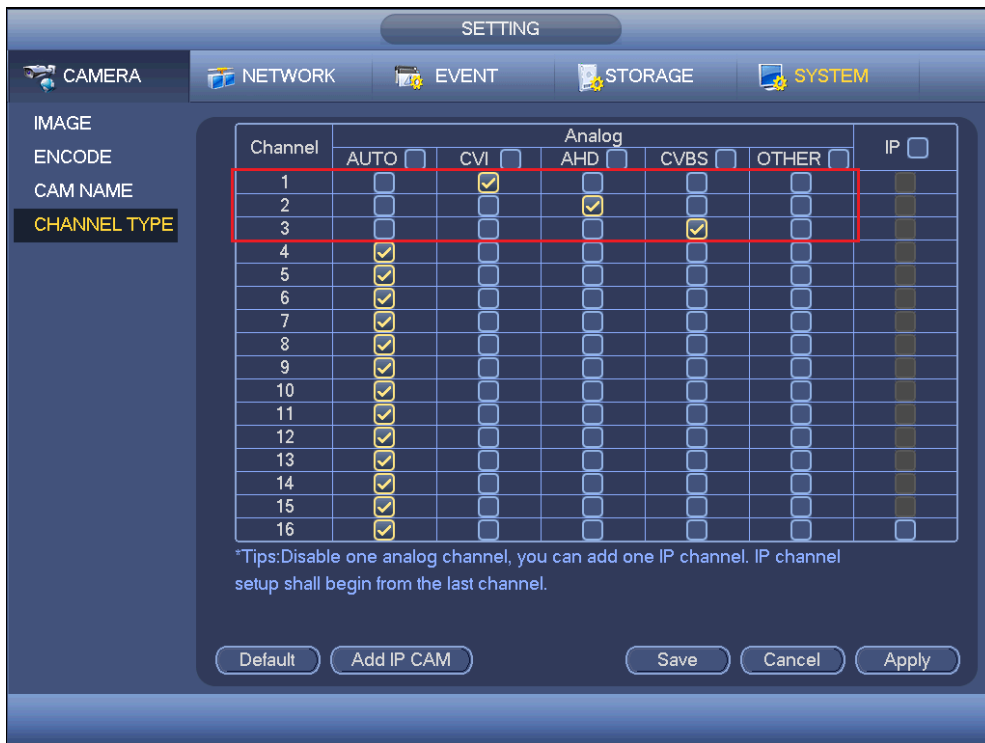

Figure 4-112
- If the auto recognition error occurred, XVR series product supports manual setup too. The manual setup featuring high recognition speed and usually there is no error. For example, in Figure 4-112, you can set channel 1 to connect to CVI camera, channel 2 to connect to AHD camera, channel 3 to connect to CVBS camera.